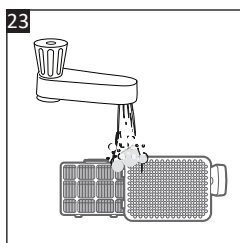

Fig. 23
4. Hold the air outlet filter (24) with the dirty side down and rinse it under the tap with lukewarm water until the water runs clear (**Fig. 23**). Rinse the air outlet cover (25).